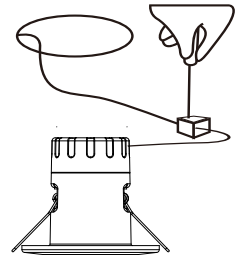
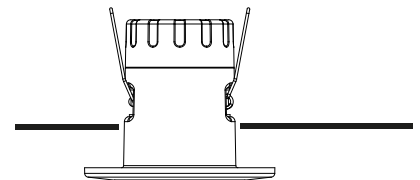

Fig 3.
Fig 4.
- Fit the downlighter into the hole (see fig 3.) in the ceiling with the 2 spring clips supplied. (see fig 4.)